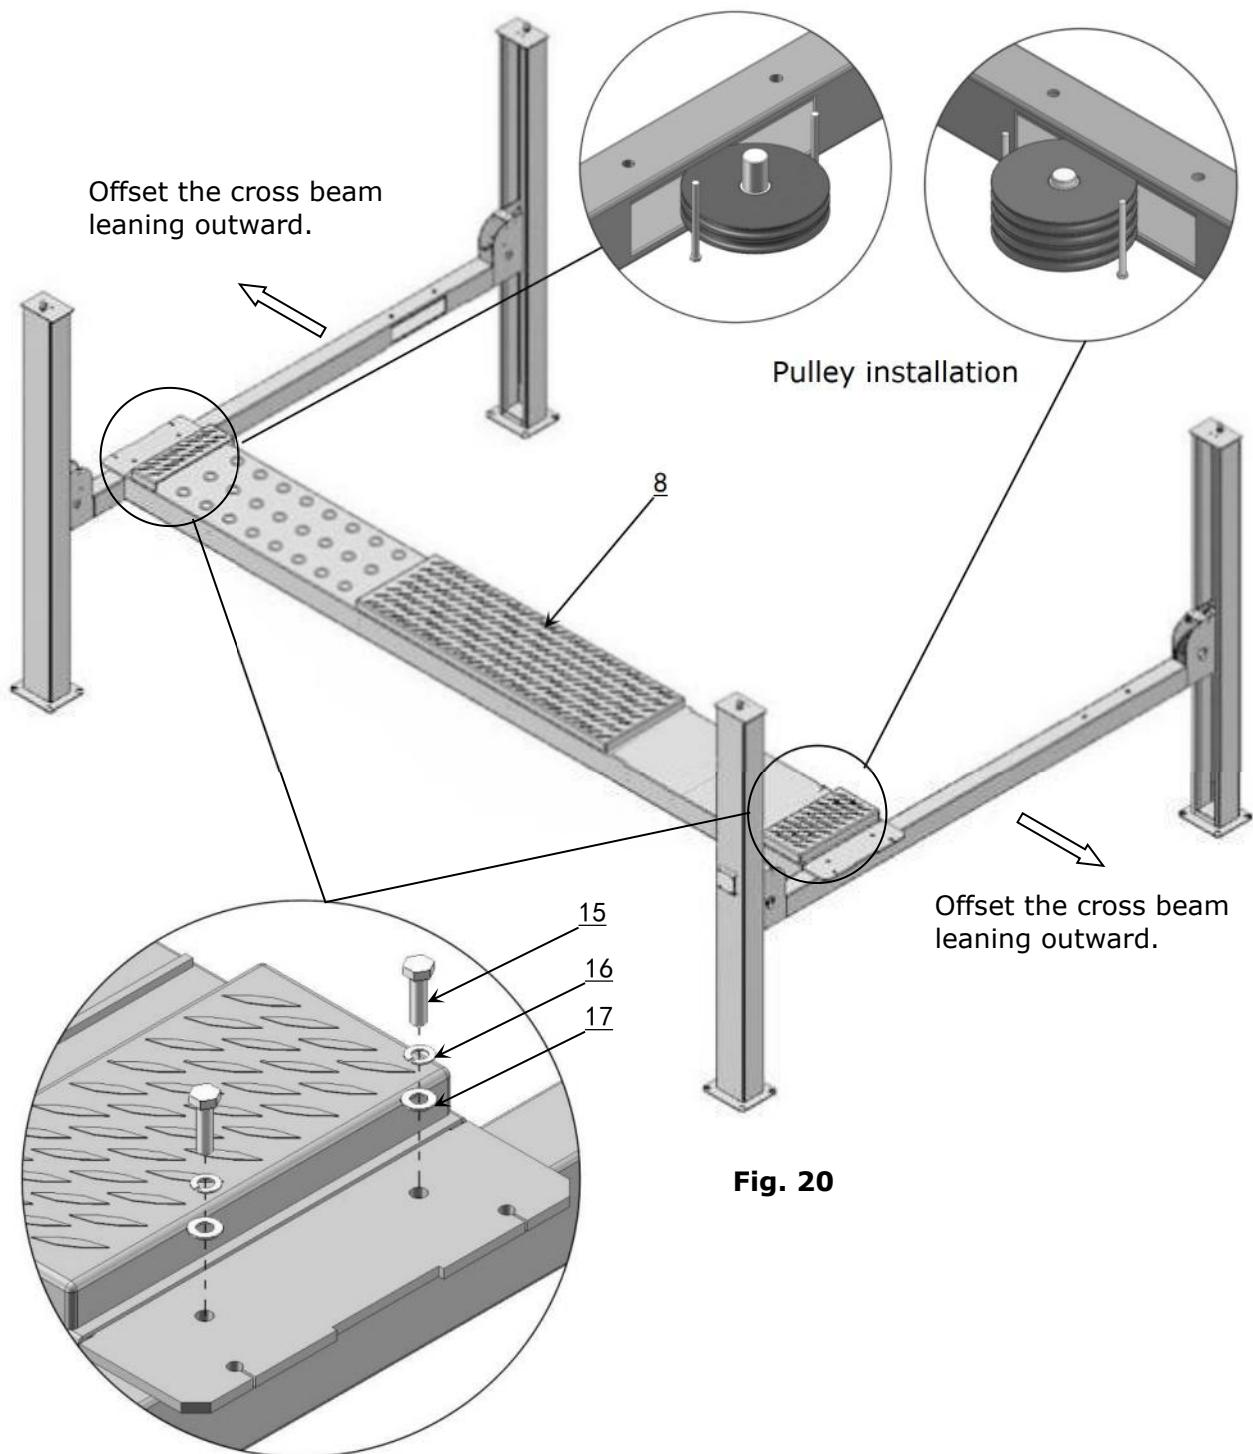

Fig. 20
1. Put the power side platform upon the cross beams by fork lift or manual, offset the cross beams to the outside till the pulleys of both platforms can set up into the cross beam (**See Fig.20**), Install the power side platform and screw up the bolts. (**See Fig.21**)